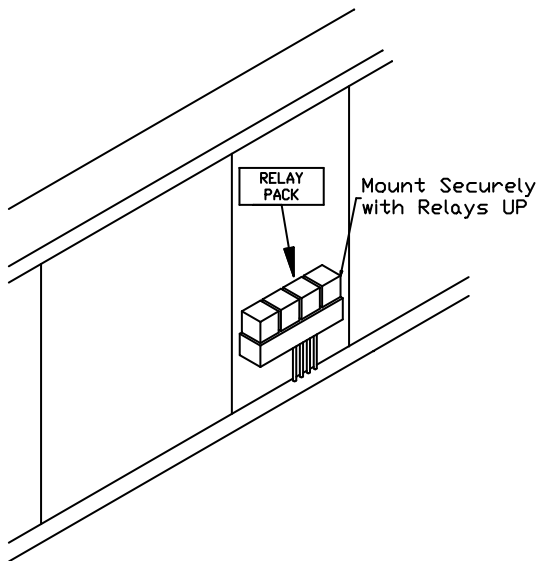

Figure 24. Relay Mounting.
32. Locate vehicle option connector. Align the connector so that the arrow on the Vehicle Option Connector is positioned to match the vehicle it is installed on. This is illustrated in Figure 24.